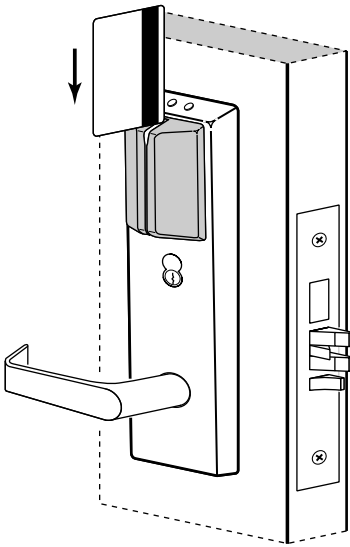

Figure 19a Using the temporary operator card with a magnetic stripe card reader
- 1 With the magnetic stripe facing towards the right, swipe the temporary operator card, as shown in Figure 19a.